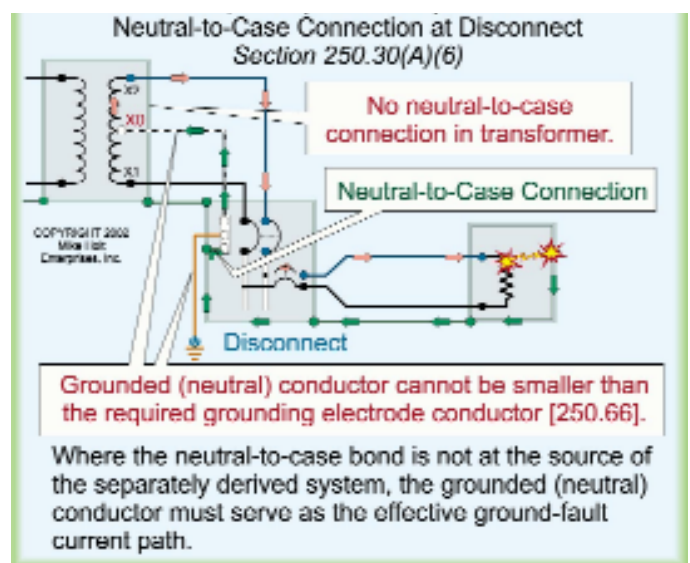

Figure 250-84
(6) **Grounded (neutral) Conductor.** Where the neutral-to-case bond is made at the first system disconnecting means, instead of at the source of the separately derived system, the following requirements shall apply: Figure 250-84